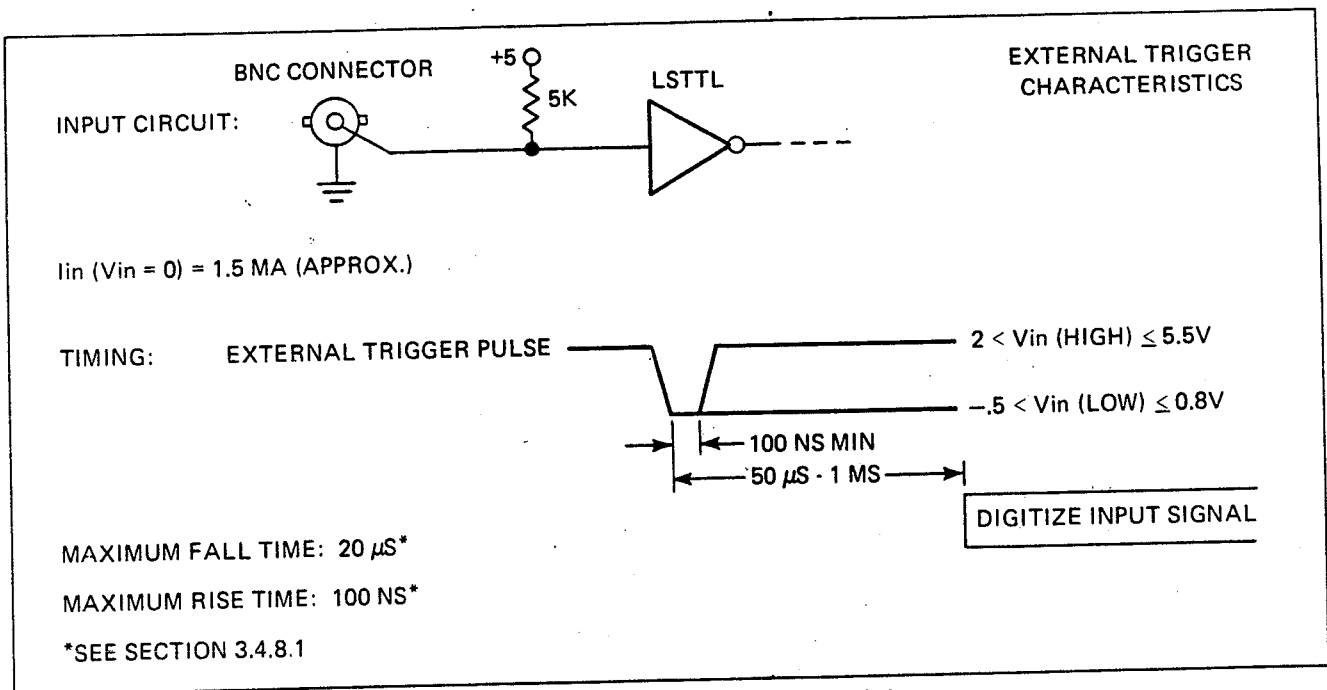

Figure 3.16A - External Trigger Characteristics
3.4.15.1.1 The signal level and timing requirements for the external trigger are presented in Figure 3.16A. These timing requirements are not critical when in local control as the DMM interprets a tight group of external triggers as a single trigger command and the rise and fall time specifications stated in Figure 3.16A do not apply, due to this internal de-bouncing. This allows the use of mechanical foot switches and other "noisy" signal sources with good results. When in remote, all external triggers are treated individually and two or more closely spaced triggers will cause the DMM to issue an SRQ to the bus and make an error message available to the controller.